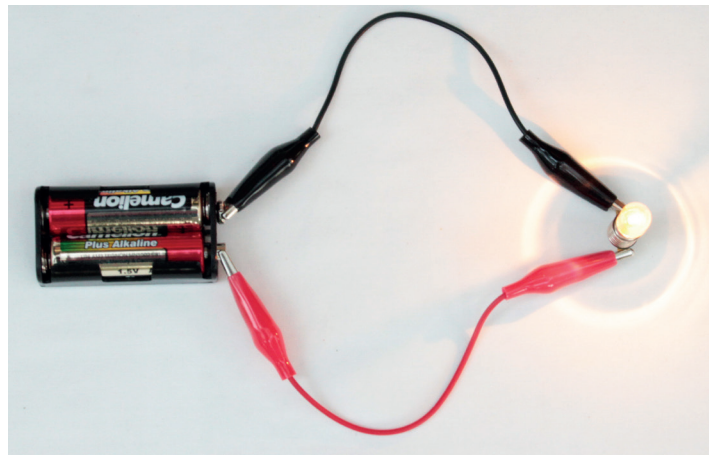

Figure 2: Two cells in series connected to a lamp
Two or more cells can be connected **in series** to increase the voltage in the circuit. Figure 2 below shows two cells connected in series in a circuit. The positive terminal of cell A is connected to the lamp.
1. Draw a circuit diagram of the circuit in Figure 2.